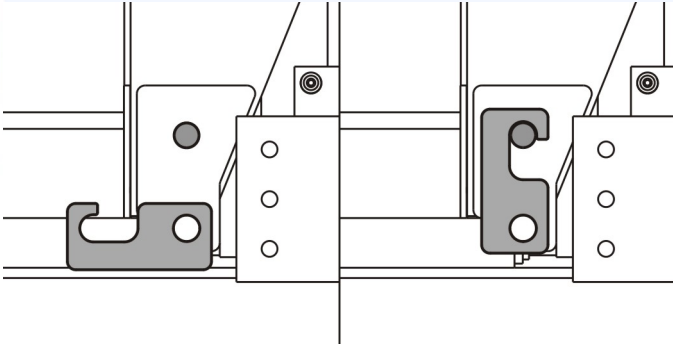

Figure 7 - Platform Lock Operation
3. Locate the two (2) adjustable leveling feet at the rear of the frame. If required, adjust each leveler downward until the leveling foot contacts the pallets surface. Further adjustments will be required later during the installation process.
4. Engage the platform lock on each side of the platform. As detailed in Figure 7, rotate each lock to the vertical position. Ensure both locks completely engage the protruding pins.
10. Disengage both platform locks. As detailed in figure 7, rotate each lock to the horizontal position.
3. Engage the platform lock on each side of the platform. As detailed in Figure 7, rotate each lock to the vertical position. Ensure both locks completely engage the protruding pins.
9. Disengage both platform locks. As detailed in Figure 7, rotate each lock to the horizontal position.